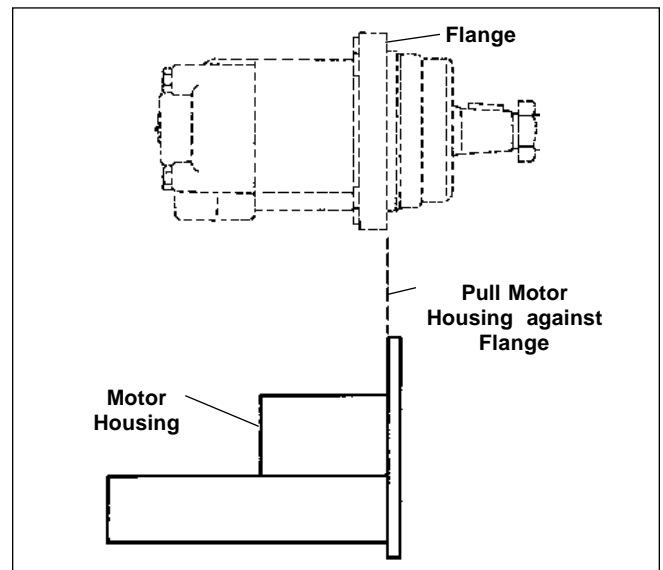

Figure 3
**CAUTION: Pull the housing to the end of the frame (Figure 3) to prevent motor damage.**